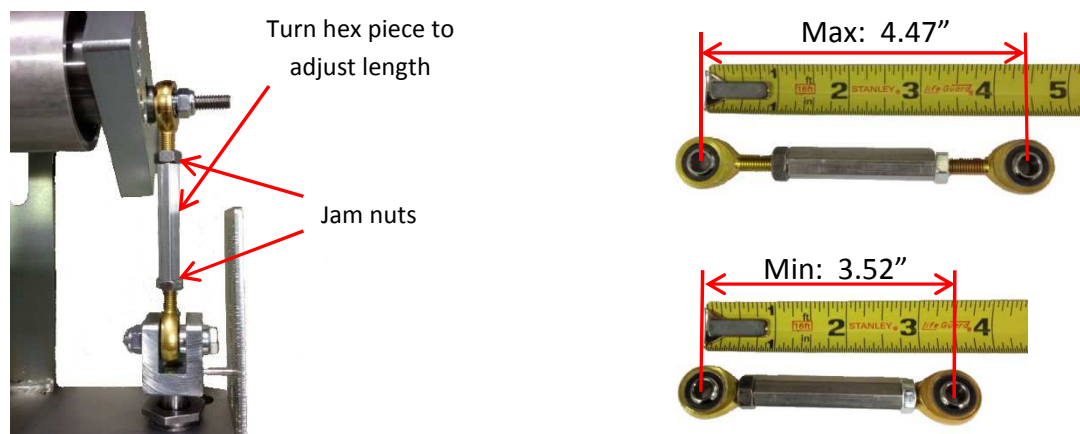
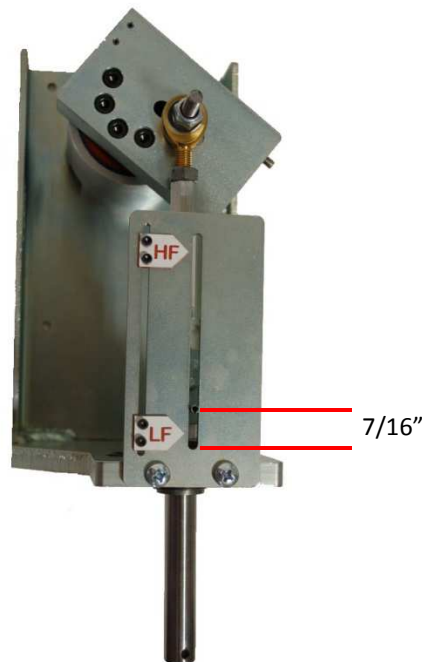

Figure 15: Turnbuckle Assembly
Figure 18: Distance from Roll Pin to Bottom of Slot
The turnbuckle assembly is shipped at its maximum length of 4.47". Making the turnbuckle assembly longer than 4.47" will result in insufficient thread engagement of the rod ends. The minimum turnbuckle length is 3.52". Figure 15 below shows the turnbuckle assembly and its maximum and minimum lengths.
4. Ensure that the turnbuckle assembly is at maximum length (see Figure 15 on page 12). This can be verified by measuring the distance that the anti-rotation roll pin is from the bottom of the slot in the indicator bracket. This should be roughly 7/16” as seen in Figure 18 below.